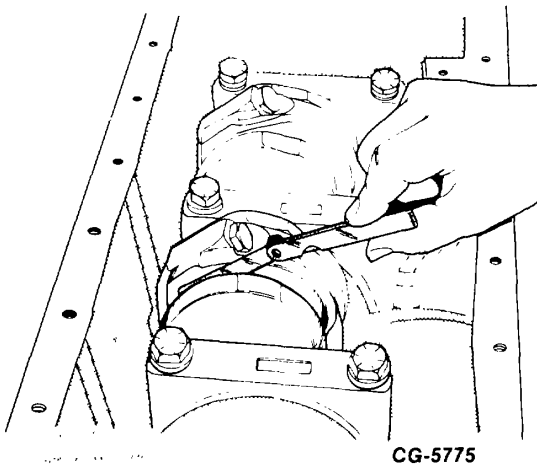

Figure 13. - Checking Connecting Rod End Clearance
d. Check connecting rod end clearance, using a feeler gauge as shown in (Fig. 13) maximum permissible bearing end clearance on crankshaft is 0.46 mm (0.018 in.).
1. The feeler gauge **MUST** cover both the connecting rod and cap (Fig. 13).